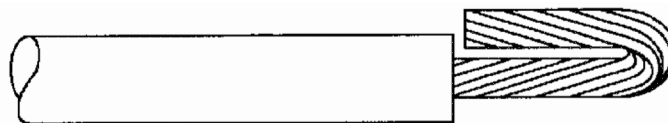

FIGURE 3 - DOUBLE BACK FILLER WIRE METHOD
| FIGURE 3 - DOUBLE BACK FILLER WIRE METHOD | 9 |
- 5.2.3.1 Strip back the appropriate gauge lead double the length specified in Table III and fold the lead back on itself as shown in Figure 3.